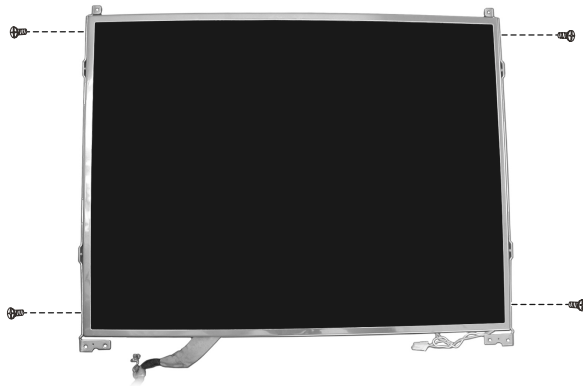

Figure 2-20 Remove the four screws
5. Remove the four screws that secure the LCD brackets. (Figure 2-20)